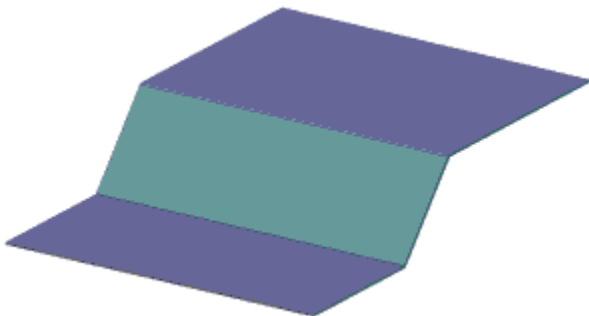

Figure 2: Second flange.
5. Add a second 2.5-inch (65mm) flange to create the stepped part shown in Figure 2.